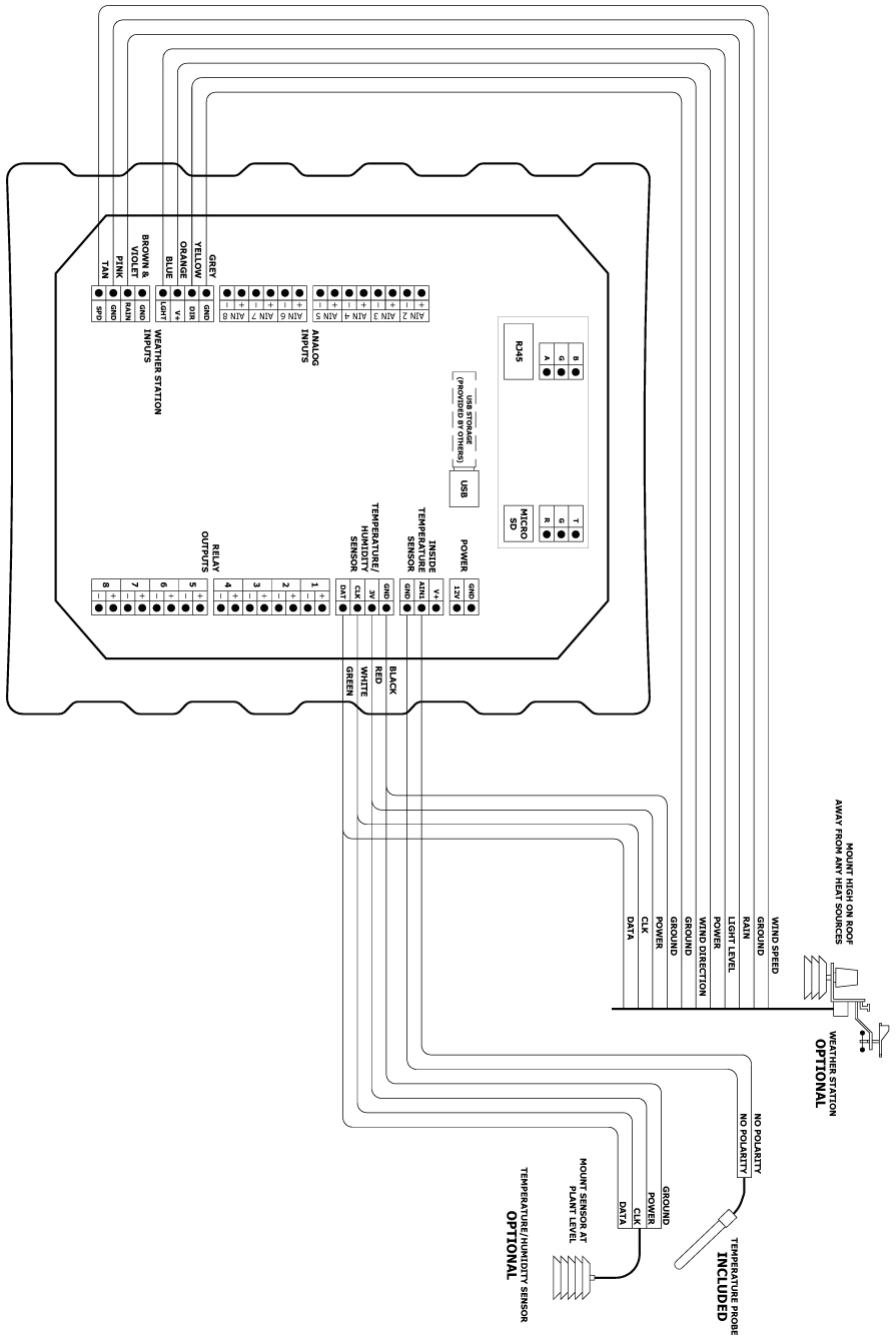

Figure 3.3 Wiring iGrow 100 Series Sensors
6. Connect the wires as shown in Figure 3.3.